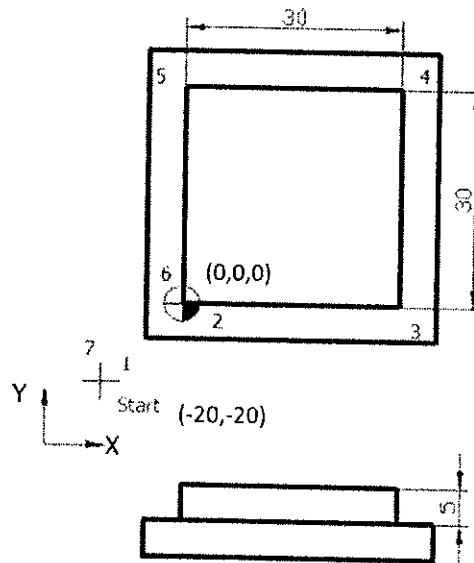

Figure Q3-1
- Q3 a) Write the full program (Including header and footer) to machine the part given in Figure Q3-1. You are advised to use 250mm/min as feed rate and 450 rpm for spindle speed and cut by only one pass. The tool T01 is a flat end mill with 12mm diameter. Use the given point number sequence as the direction of move. Use 5mm above the surface as Z safe level and G54 as the work origin offset. All required G codes and M codes are given in Appendix 1.